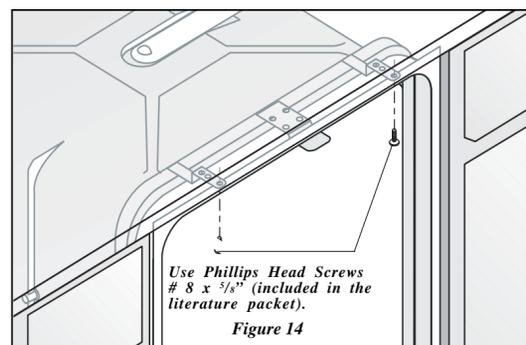

Figure 14
3. Adjust levelers (see Step 5) so mounting brackets touch underside of countertop. **IMPORTANT: Dishwasher must rest on floor—do not hang from countertop.** See **Figure 14**.